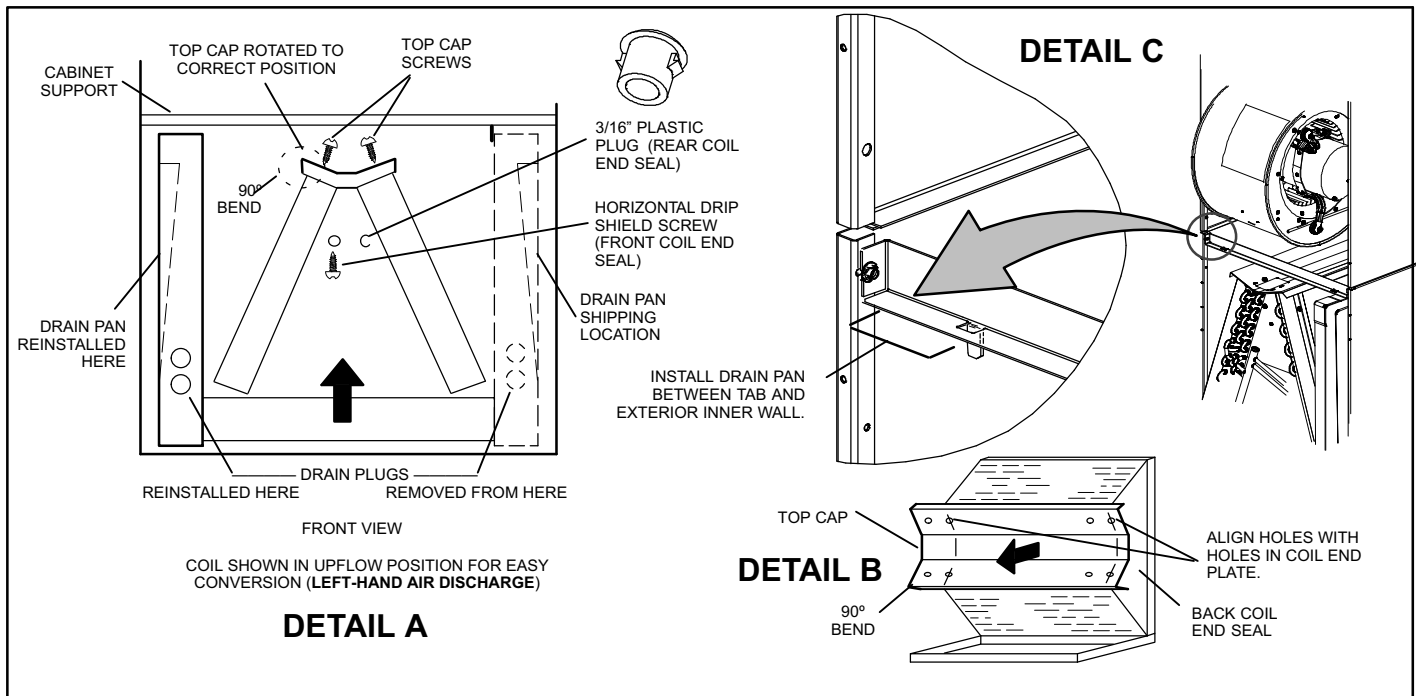

Figure 4. Field Modification for Left-Hand Discharge
4. Remove screws from top cap as illustrated in figure 4, detail A.
5. Remove horizontal drip shield screw located in the left center of the back coil end seal as illustrated in figure 4, detail A.
9. Rotate top cap 180° front-to-back and align with unused screw holes. Holes must align with front and back coil end plates. The top cap has a 45° bend on one side and a 90° bend on the other. The 90° bend must be on the same side as the horizontal drain pan as illustrated in figure 4, detail B.
10. From the upflow position, flip cabinet 90° to the left and set into place. Replace coil assembly. Replace coil assembly. Install drain pan between exterior inner wall and tab as illustrated in figure 4, detail C.